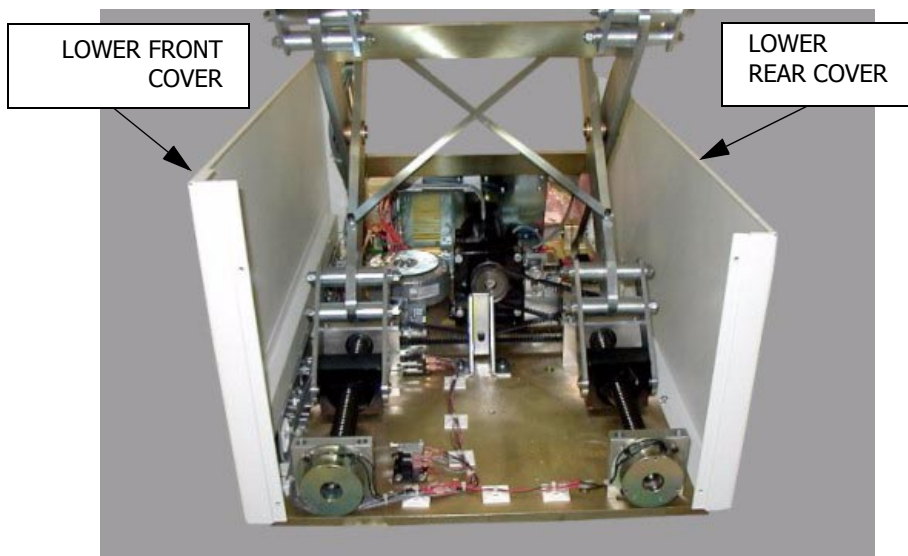

Figure 11. Table Lower Front and Rear Covers Installed
2. Attach the Lower Rear Cover to aluminum base plate using five (5) 10-32 x 3/8" screws with external tooth star washers (see Figure 11). Do not fully tighten screws at this time.
3. Attach the Lower Front Cover to aluminum base plate using four (4) 10-32 x 3/8" screws with external tooth star washers (see Figure 11). Do not fully tighten screws at this time.